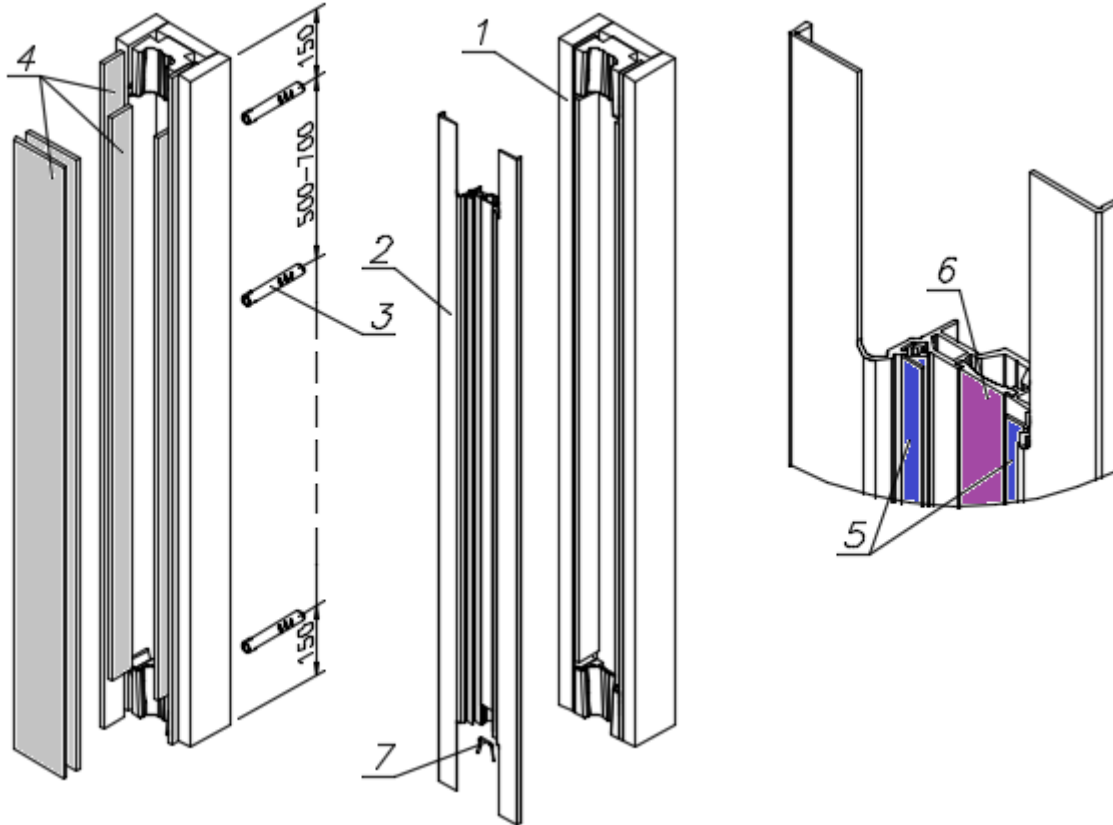

Fig.37. Installation of the skirting board
- **fixed part** - the so-called batten trough (1 in Fig.37)
- **finishing part** - i.e. aluminum profile (2 in Fig.37) with additional cooperating elements (4, 5, 6 and 7 in Fig.37)
1. Measure the holes for the wall plugs (3) **alternately 20 mm from the axis of symmetry** of the skirting board **according to the dimensions (Fig.37)**
3. Fix the wall plugs (3) in each drilled hole
4. Place the trough (1) against the wall